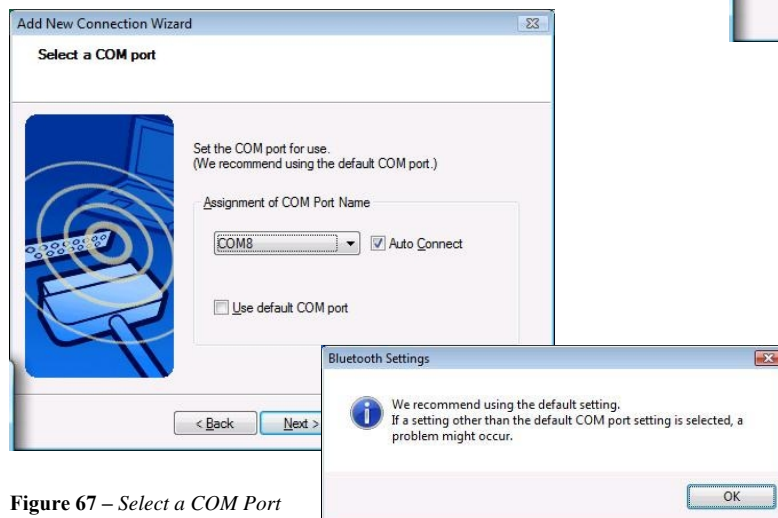

Figure 67 – Select a COM Port
5. Select **COM8** from the dropdown list and remove the check from **Use Default COM Port**. Leave the **Auto Connect** box checked. When the warning message displays, click **OK** (see Figure 67). Click **Next**.